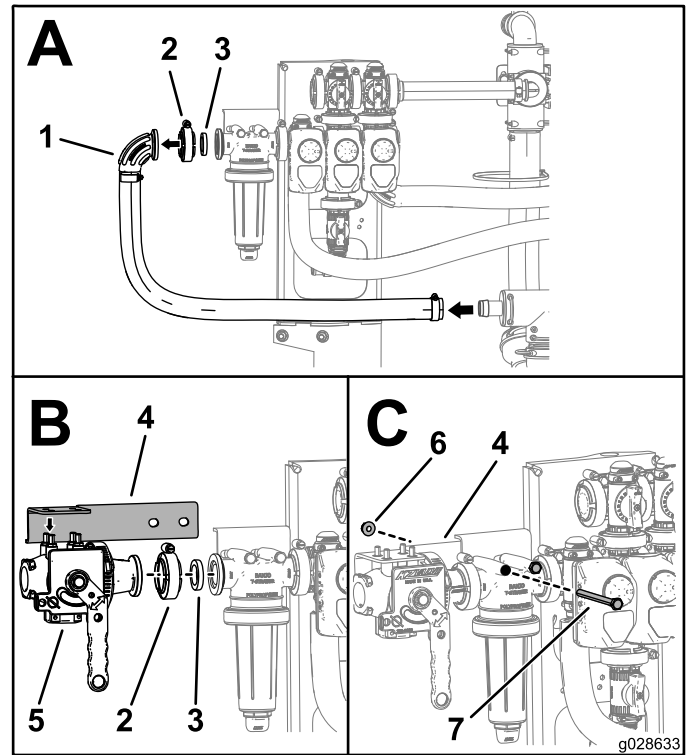

Figure 21
1. Remove the elbow, flange clamp, gasket, elbow, and inlet hose from the pressure filter head (Box A of Figure 21).
2. Place the valve bracket on top of the eductor valve as shown in Box B of Figure 21.
3. Install the eductor valve using the gasket and flange clamp removed in Step 1; refer to Box B of Figure 21.
4. Secure the bracket to the boom valve assembly using the bolts and nuts that are currently installed on the pressure filter; refer to Box C of Figure 21.